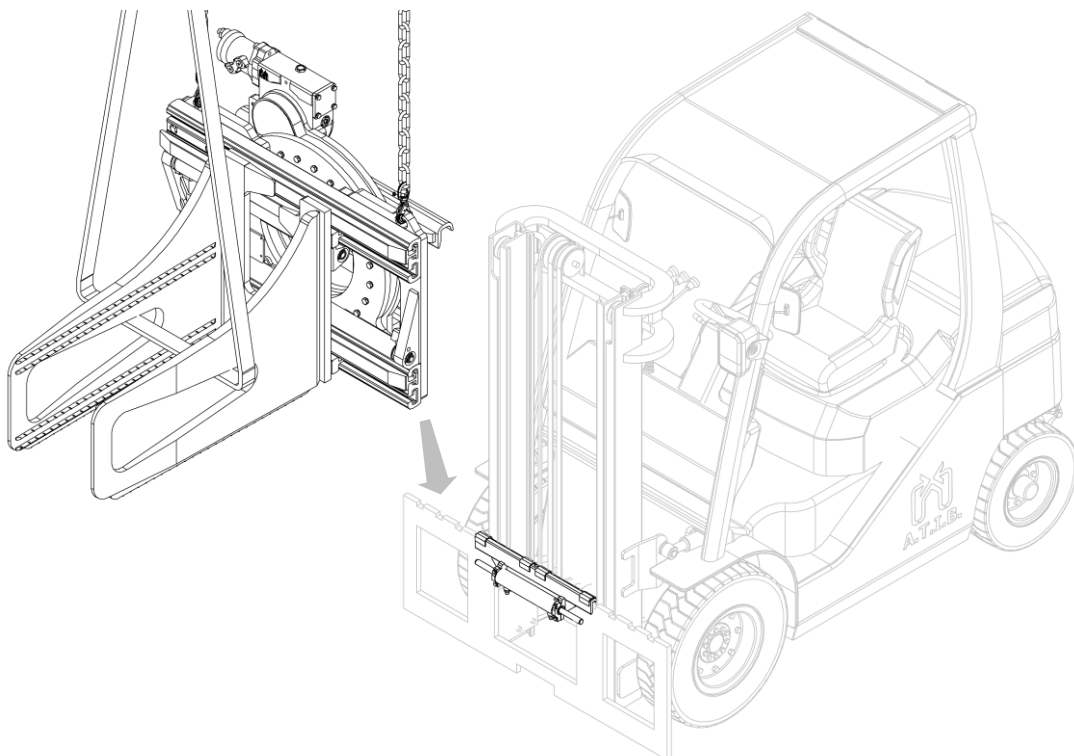

Figure 8
- Using an overhead crane or hoist of sufficient capacity, place the equipment on the dual coupling, taking care to position it correctly (see *Figure 8*).